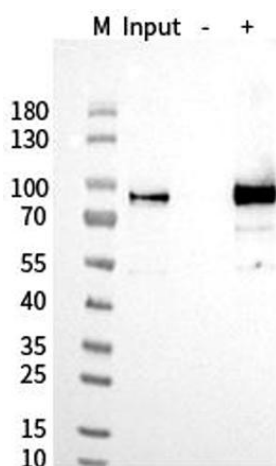

Figure 2: Western blot after IP using UltraBio™ Anti-Flag (DYKDDDDK) Magnetic Beads.
5. The detection antibody used was Anti-His-HRP mAb. The negative control (-) used beads without the DYKDDDDK antibody incubated with the sample. Results are shown in Figure 2.
Figure 2 demonstrates that UltraBio™ Anti-Flag (DYKDDDDK) Magnetic Beads effectively capture the DYKDDDDK-tagged fusion protein from the sample, with no non-specific protein binding.